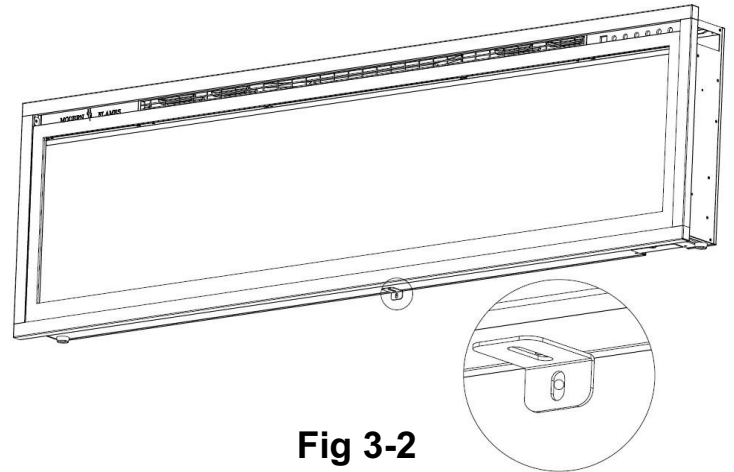

Fig 3-2
B. Using the screw previously removed, attached the L-bracket (O) (supplied) to the bottom of the fireplace box.(Fig 3-2)